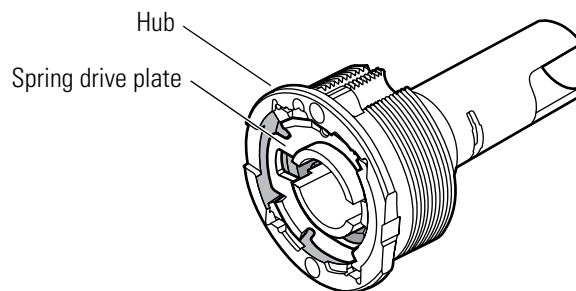

Figure 3.26 Removing the spring drive plate
2. Pull the spring drive plate out of the hub, as shown in Figure 3.26.